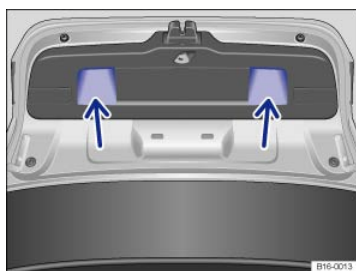

Fig. 33 Opened trunk lid: Recessed grips for closing.
- Grasp one of the recessed grips in the trim of the trunk lid $\Rightarrow$ Fig. 33 (arrows).